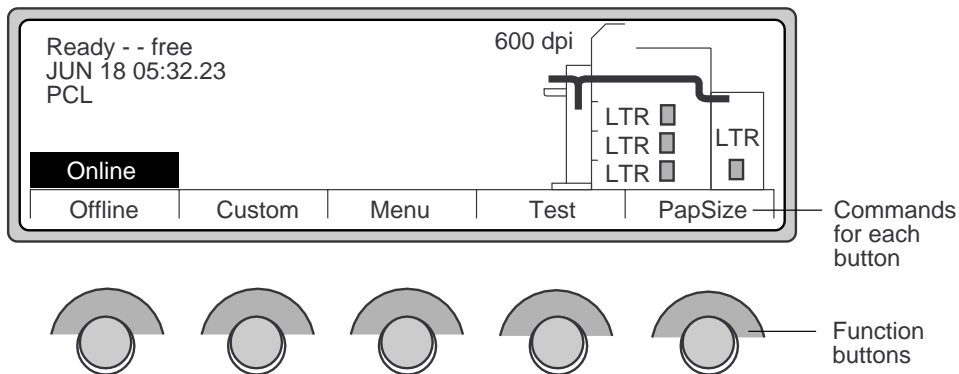

Figure 2-6 Main Screen Function Buttons
- The Function buttons are located below the LCD panel. These five buttons perform different functions during printer operations, such as when the printer is printing, or when you are changing settings. Figure 2-6 shows these function buttons.
- The Liquid crystal display (LCD) panel displays printer status and operating information. Figure 2-6 shows the basic menu screen, called the Main Screen. Messages on the Main Screen: